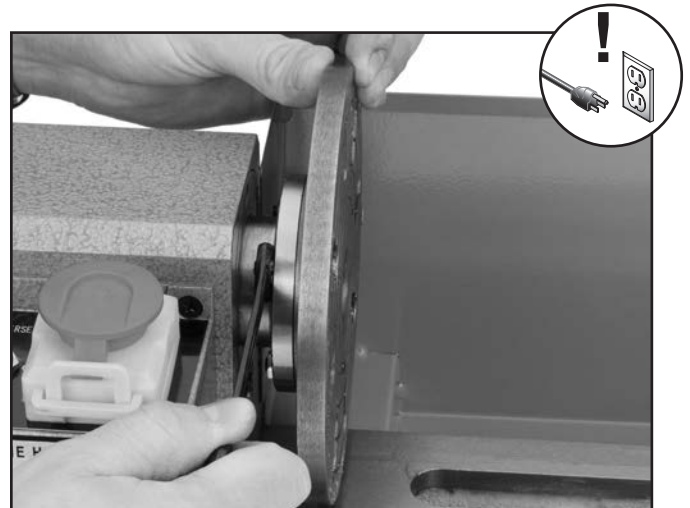

Figure 17. Installing the faceplate.
3. Line up the studs with the holes on the spindle nose and secure the chuck/faceplate with the hex nuts (see **Figure 17**).